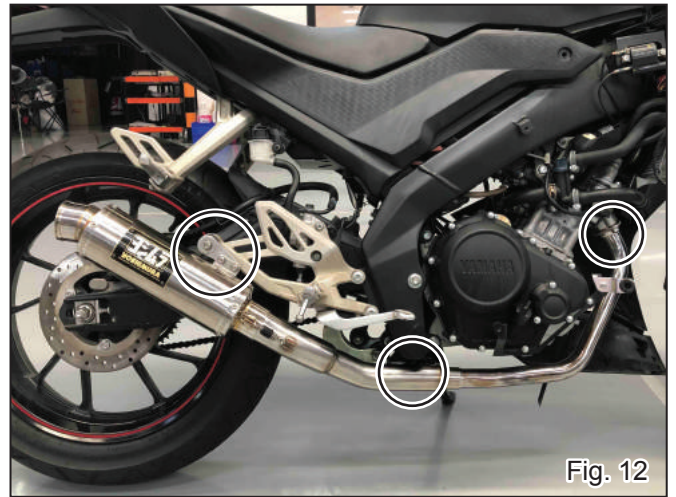

Fig. 12
- 9) Check that there are proper clearances between Yoshimura exhaust system and other components. Then, tighten and torque stock nuts on Flange, Cap Bolt M8x20, Button Bolt M6x20 and Cap Bolt M8x50 in order (See Fig. 12 on next page).